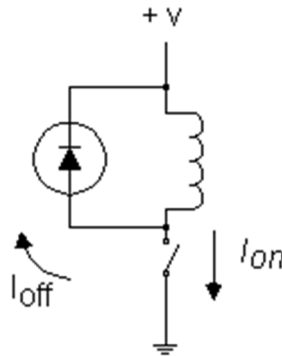

Figure 2: Kickback diode configuration
- **Note: The motor is an inductive load, and thus generates a very large voltage when it experiences rapid current changes (i.e.  $V = L \cdot di/dt$ ). When using a motor experiences a switching signal (e.g. motor on/off or a PWM signal) the sharp edges of the square wave cause large voltage spikes that can burn out the MOSFET.** Consider Figure 2, where a motor (represented by an inductor) is driven by a load (the switch is on). A kickback diode (e.g. 1N4001) in this configuration prevents this from happening by offering a return path for the current.